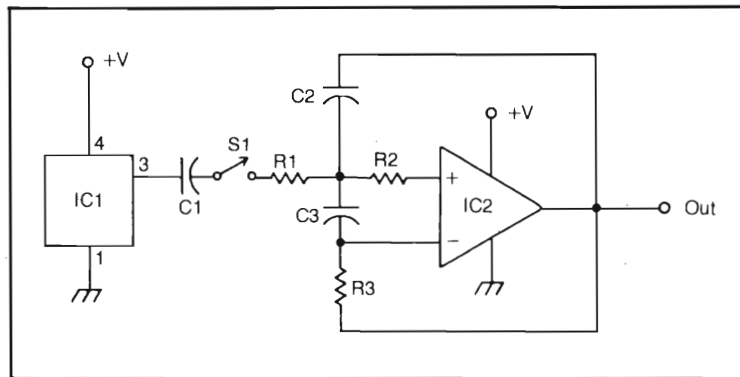

Fig. 3-70. Snare drum simulator.
• **Snare Drum.** Figure 3-70 shows a circuit for synthesizing the sound of a snare drum. The parts list is given in Table 3-32.
Table 3-32. Parts List for the Snare Drum Simulator in Fig. 3-70.